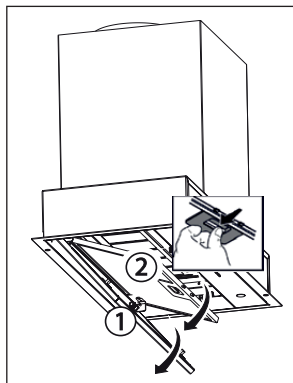

Fig. 7
1. Open the side aspirator (Fig. 7/1).
2. Open the lock of the metal oil filter (Fig. 7/2) and ensure that it will not fall.
3. Tilt the metal oil filter forward and lift it out (Fig. 7/2).